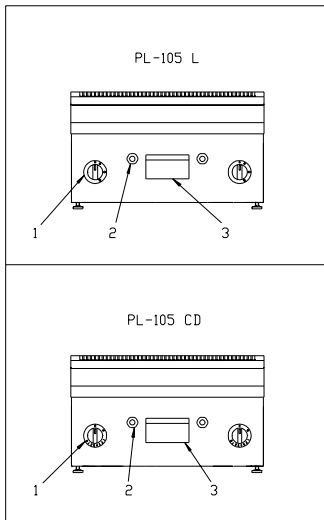

Figure 5
- b) Press slightly the control and turn it anti clockwise until PILOTT (\*) position (figure 5 & 6)
- d) From this moment, to light the burner press the control and turn it against clockwise to the wished position, depending on the temperature you pretend to reach (figure 5 & 6)